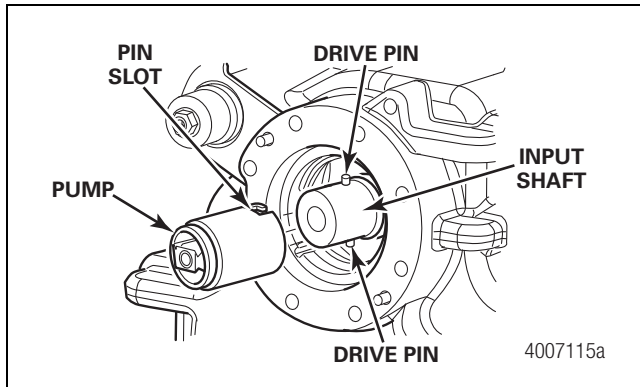

Figure 4.8
3. Remove the pump by applying forward pressure to the pump assembly and disengage the assembly from the oil pump drive pins located on the rear half on the input shaft. Figure 4.8.